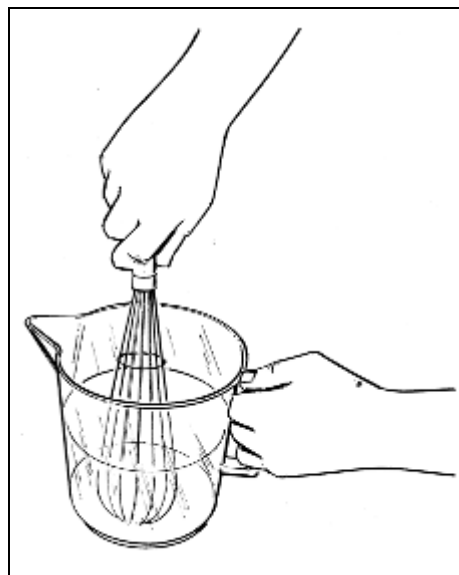

Fig. 9
- Dilute and mix the product in a separate container according to the manufacturer's instructions (see fig.9).